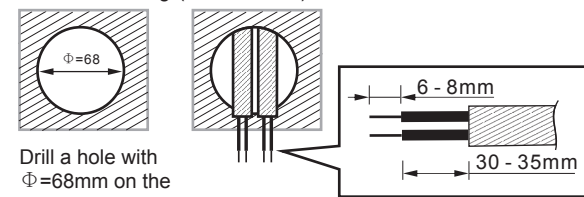

FIG.10
- 3.3.2.1 To install sensor, please drill a hole with diameter of 68mm on ceiling board and keep the power cable outside. Please strip off 6-8mm of cable sheathing for wiring (See FIG.10).